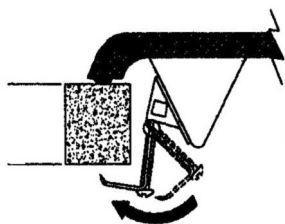

Fig.3
6. Rotate 'clips' or 'claws' (factory installed in the sink) under countertop. (Fig.3)